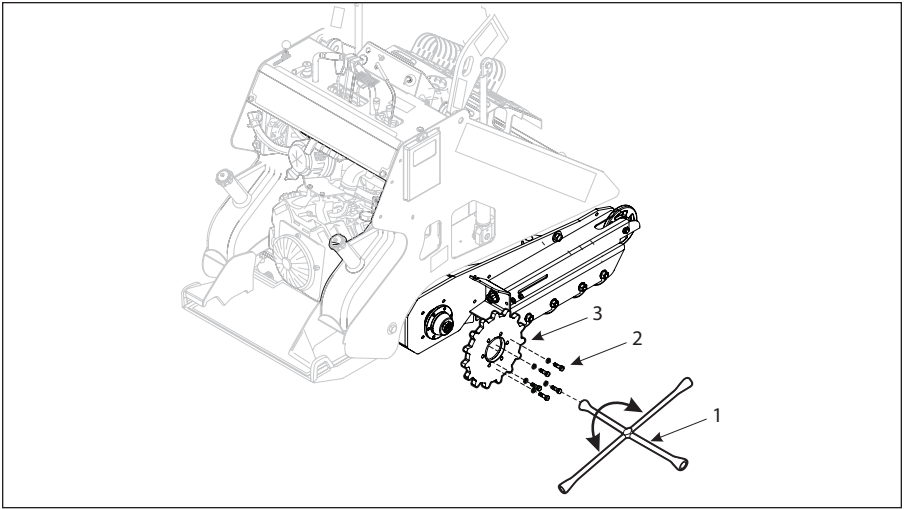

Figure 4-29 Remove Drive Sprocket
11. Using a  $\frac{3}{4}$ " wrench (or tire cross) (Item 1, **Figure 4-29**), remove the 6 bolts (Item 2, **Figure 4-29**) securing the drive sprocket (Item 3, **Figure 4-29**) to the drive motor.